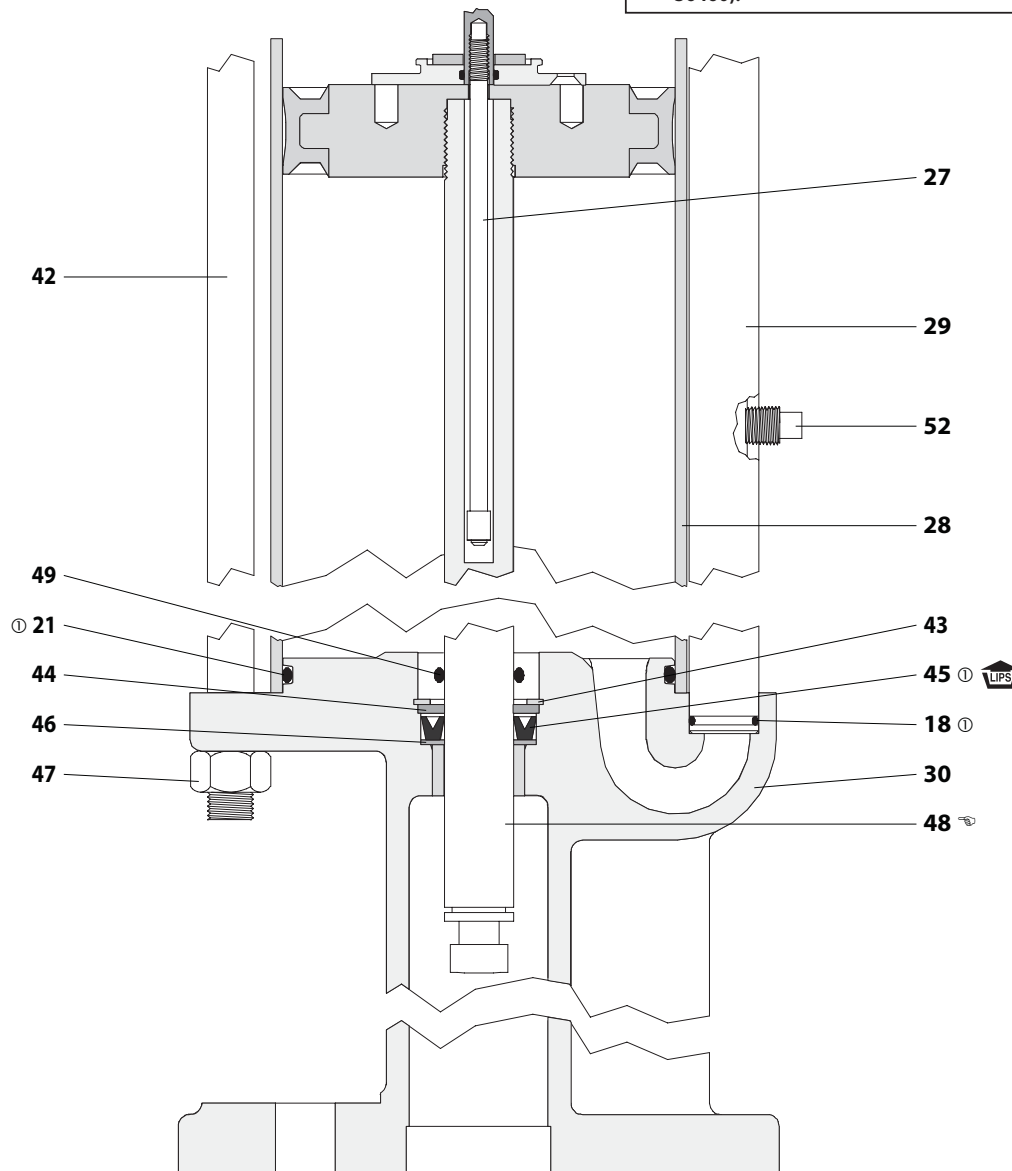
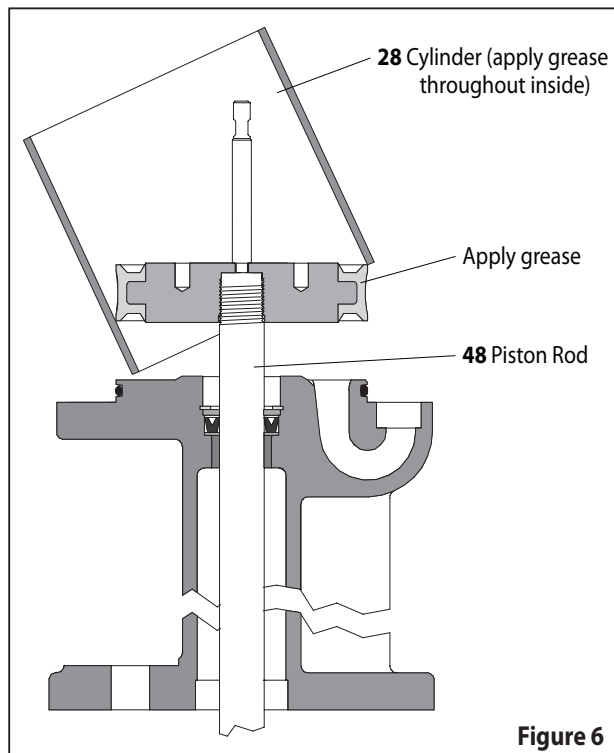

Figure 5
Figure 6
22. Remove (21) "O" ring from (19) head assembly.
23. Remove four (22) screws from (39) gland, permitting gland to be removed from (19) head assembly.
24. Remove (16 and 41) "O" rings from (39) gland.
25. Remove (29) tube assembly from (30) base.
26. Remove two (18) "O" rings from (29) tube.
27. Remove (28) cylinder from (30) base. Usually during this step, the (24) piston and (48) piston rod will remain in (28) cylinder.
28. From (30) base assembly (there are 2 types):
Type 1 (see figure 5, above): Remove (43) snap ring, (44) washer, (45) "U" cup and (46) washer.
2. Clean the threads on (27) rod assembly and put the threaded end thru (24) piston assembly.
3. Hold (27) rod assembly below threads with locking type pliers. After applying Loctite 271 to the threads, attach (36) extension rod and draw up tight, using the wrench flats provided on (36) extension rod. NOTE: Do not mar or damage the surface of (36) extension rod.
4. Place the "machined shoulder" end of (27) rod assembly into the hole in the end of (48) piston rod. After applying Loctite 271 to threads, secure (48) piston rod into (24) piston assembly and tighten to 50 - 60 ft lbs. (67.8 - 81.3 Nm), using provided wrench flats on (48) piston rod. NOTE: Do not mar or damage the surface of (48) piston rod.
5. Install (21) "O" ring on (30) base assembly.
6. On type one (30) base assembly (see figure 5, page 5), install (46) washer, (45) "U" cup (lips up), (44) washer and (43) snap ring. On type two (30) base assembly (see figure 11, page 8), install (49) "O" ring.
7. Push (48) piston rod thru (30) base assembly, being careful not to damage the lips of (45) "U" cup or (49) "O" ring.
8. Grease the inside of (28) cylinder and fill the area between the lips of (24) piston assembly with grease, then place (28) cylinder over (24) piston and rod assembly (see figure 6 below).
9. Push (24) piston assembly to the top of (28) cylinder.
10. Install two (18) "O" rings on (29) tube and insert (29) tube assembly into provided hole of (30) base assembly.
11. Install (16 and 41) "O" rings on (39) gland.
12. Grease the bore in (19) head assembly and insert (39) gland assembly into bore of (19) head assembly with a twisting motion.